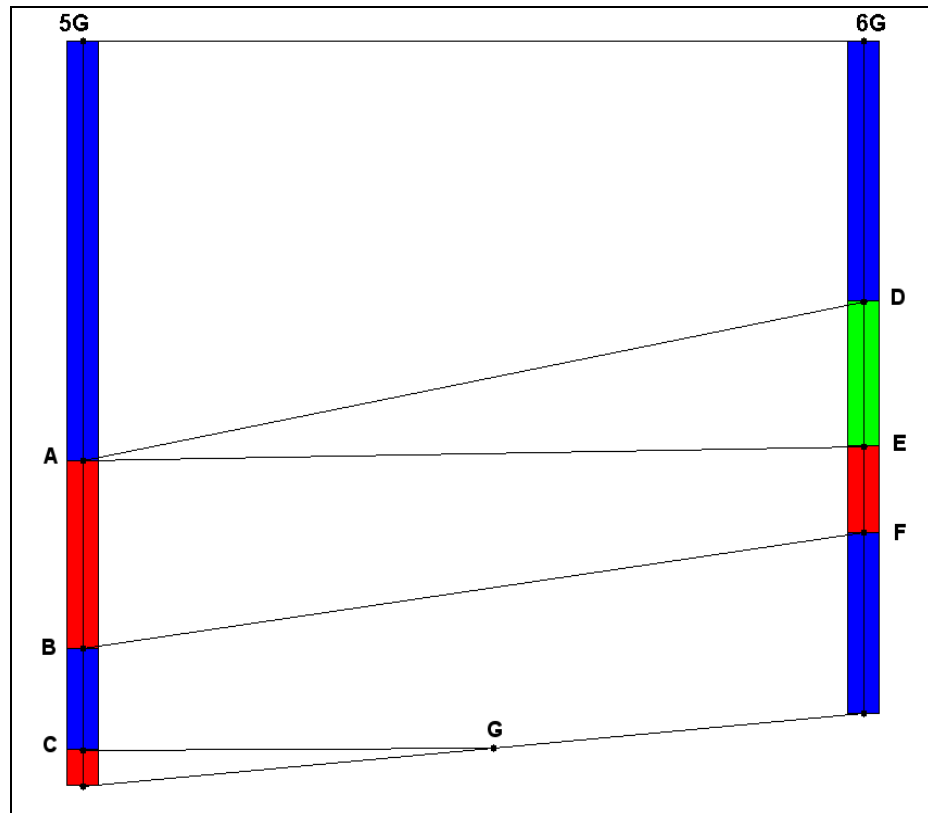

Figure 3.5 Cross Section 5G-6G
3. Create all the arcs shown in Figure 3.5. Note that the arc starting at contact C ends about half way between the two boreholes at point G.